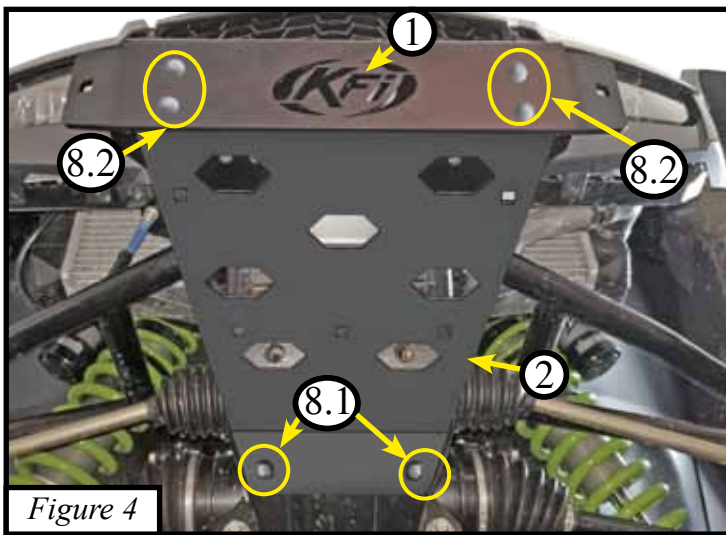

Figure 4
3. Next install skid plate (2) using two M12 bolts (8.1) (use existing threaded holes in your machine) and using four 5/16" bolts and nuts (8.2 & 8.3) as shown in Figure 4. Tighten all hardware evenly.